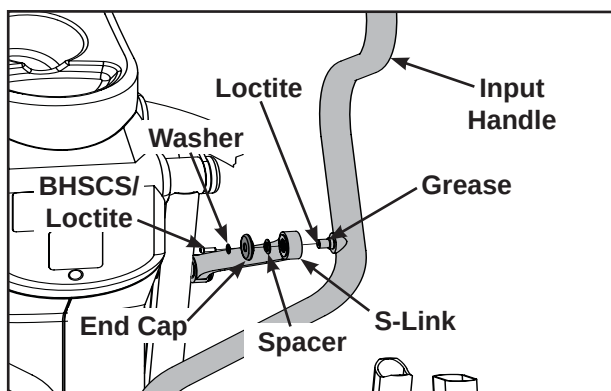

Figure 3
- A. Using a 5/32" Allen wrench, remove the Button Head Socket Cap Screw (BHSCS), washer, end cap and spacer securing the S-link to the input handles. See Figure 3.